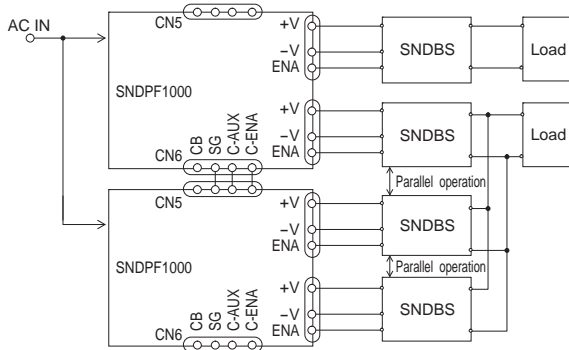

Fig.5.2 Synchronized start up connection Example
- Make a connection in Figure 5.2, ENA signal to be synchronized, even if you do not parallel operation is possible. When all SNDFPF1000 connected becomes able to work, ENA signal turns into H.